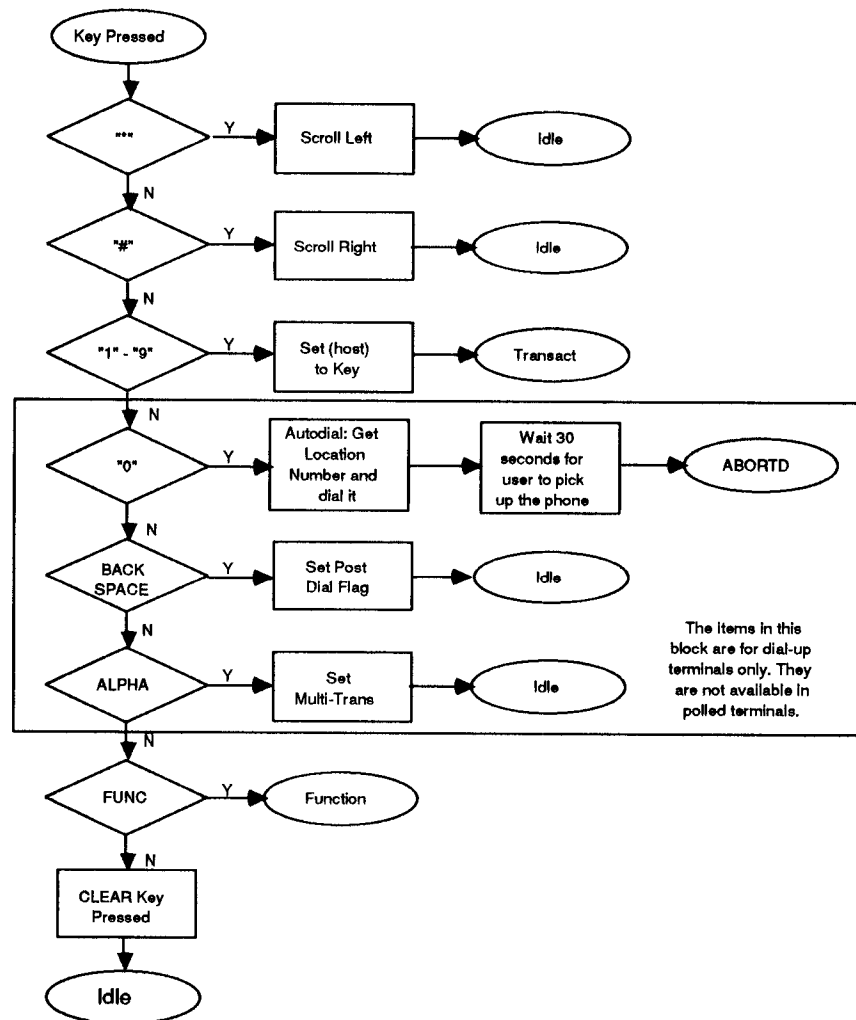

Figure 2-3. Key Press Routine
- A specific key press transaction, described in greater detail in Figure 2-3, "Key Press Routine."
From the idle state the terminal will execute the operation associated with the key press. Figure 2-3, "Key Press Routine" illustrates the following key press operations: